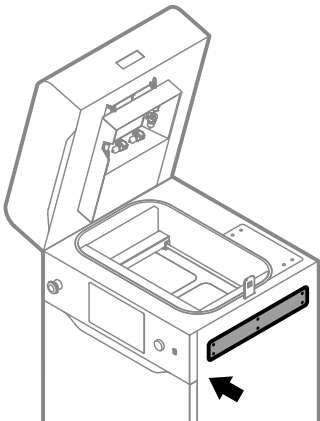

Fig. 13.72 Mount back the access panel.
16. Mount back the access panel on the right side of the printer (fig. 13.72).